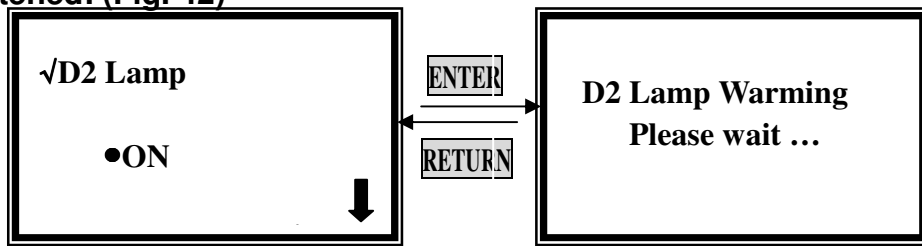

Fig. 42
**Note: The D2 lamp needs about 20 seconds to warm up before being lightened! (Fig. 42)**